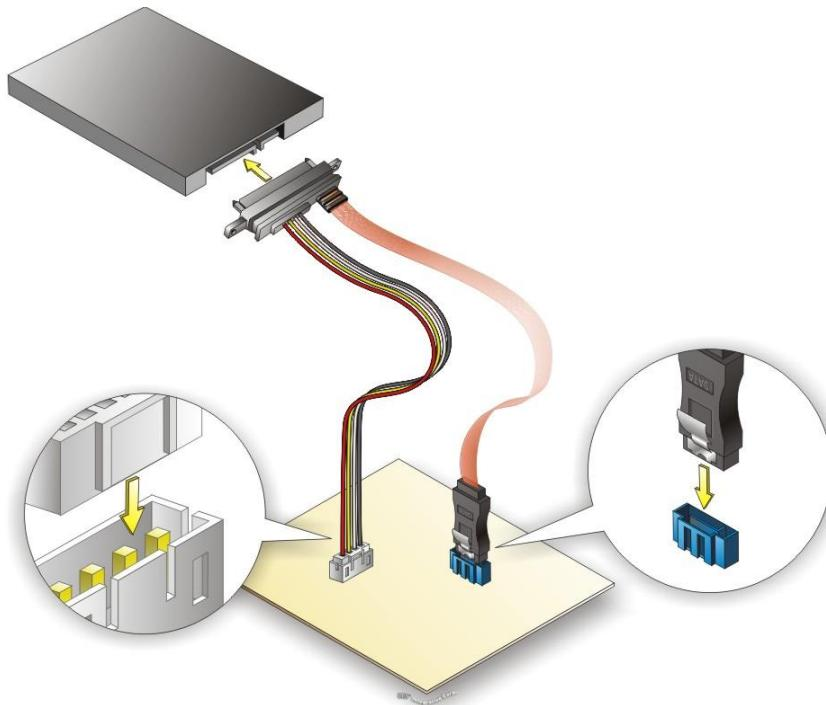

Figure 4-24: SATA Drive Cable Connection
Step 2: **Insert the cable connector.** Insert the cable connector into the on-board SATA drive connector and the SATA power connector. See Figure 4-24.
Step 3: **Connect the cable to the SATA disk.** Connect the connector on the other end of the cable to the connector at the back of the SATA drive. See Figure 4-24.